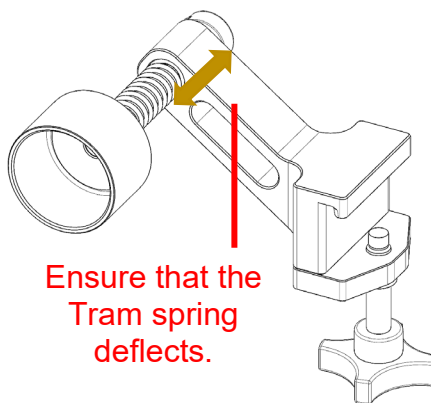

Figure 99: Tram Stop Inspection
**Tram Stop Inspection** – Inspection of the Tram stops should occur at 150-hour intervals. Ensure that the TyBOT is equipped with two Tram stops (see Figure 99). Inspect each Tram stop for any distortion or worn parts. Ensure that each of the Tram stop springs deflects.